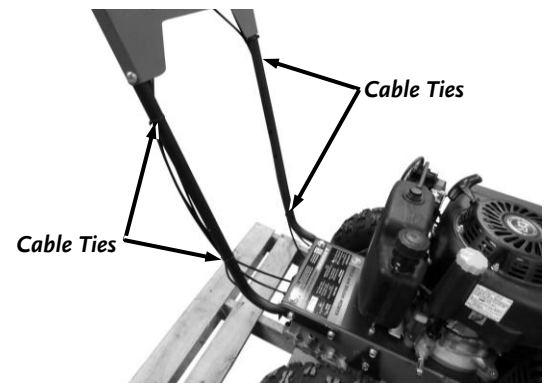

Figure 5
- Secure the Cables to the Handlebars with the Cable Ties (**Figure 5**). Cut off the excess from the Cable Ties using the Wire Cutters.